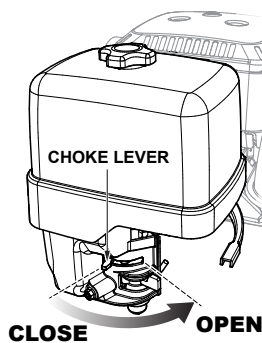

Figure 24. Choke Lever (OPEN)
8. If the engine has started and the choke lever was moved to the **CLOSED** position to start the engine, gradually move the choke lever to the **OPEN** position (Figure 24) as the engine warms up. If the engine has not started, repeat steps 1 through 7.